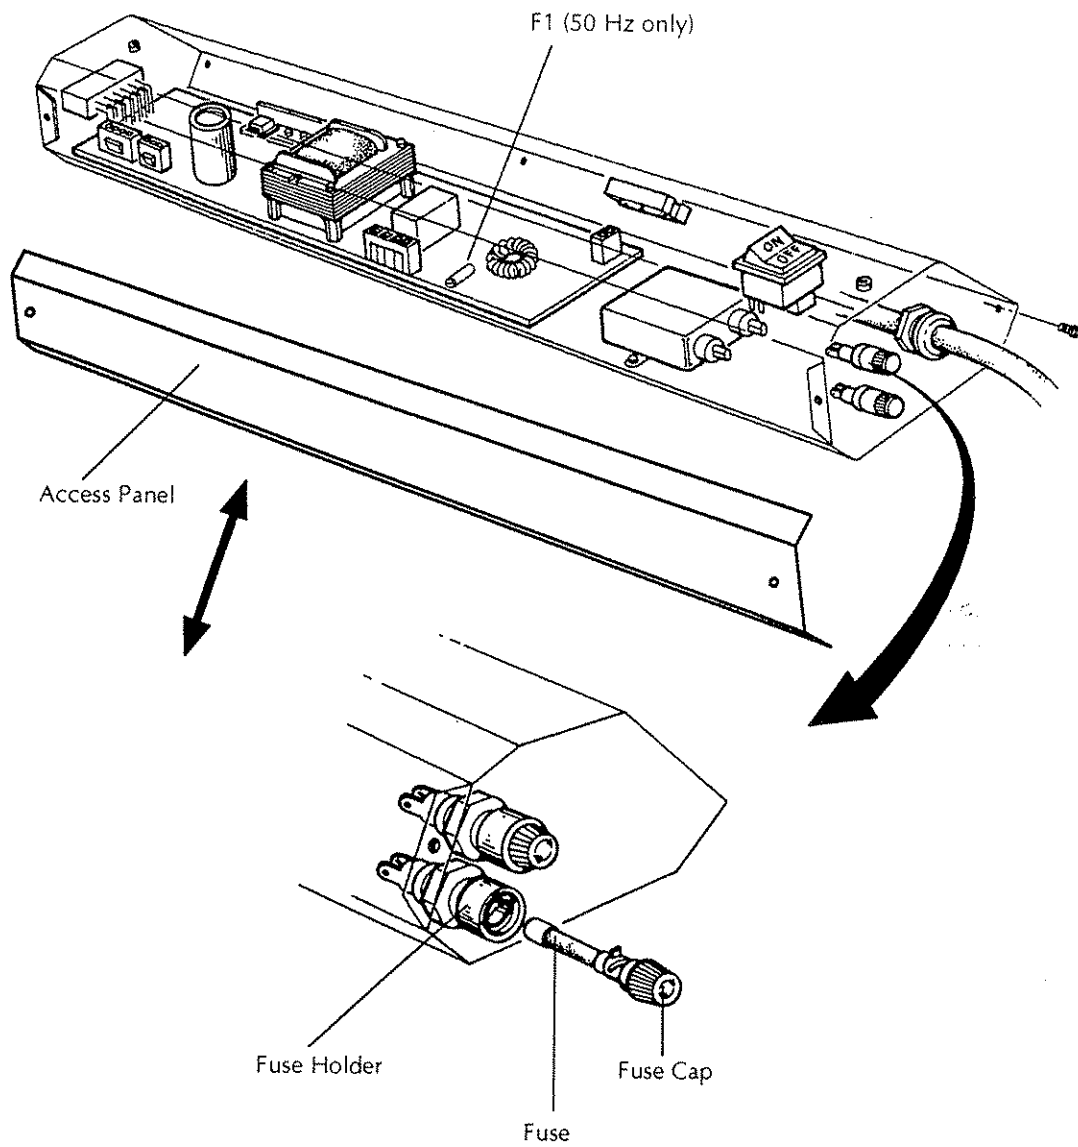

Figure 5-10: Replacing a Relay Box Fuse (F1 or F2)
3. Locate the relay box assembly and the fuse that requires replacing. See Figure 5-10.
Note: Replacing the F1 fuse on the 50 Hz model requires removing the relay box's side access panel. See Figure 5-10.
4. To remove an F1 or F2 externally mounted fuse, grasp its fuse cap. Firmly press in and turn the fuse cap counterclockwise until it disengages from the holder. See Figure 5-10.
To remove the F1 lower circuit board mounted fuse, use a small flat blade screwdriver and turn the fuse cap counterclockwise until it disengages from the holder. See Figure 5-10.